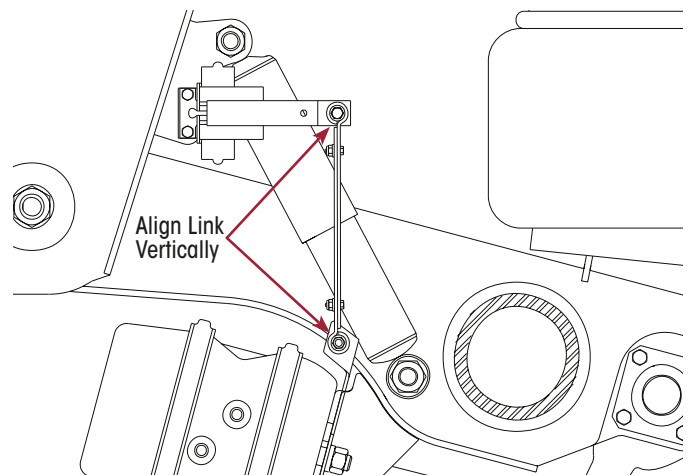

Figure 182: Check HCV Link Angle at Ride Height
- Correctly locate link so that it sits vertically (or at least close to vertical) when the vehicle is at correct ride height. Refer Figure 182.